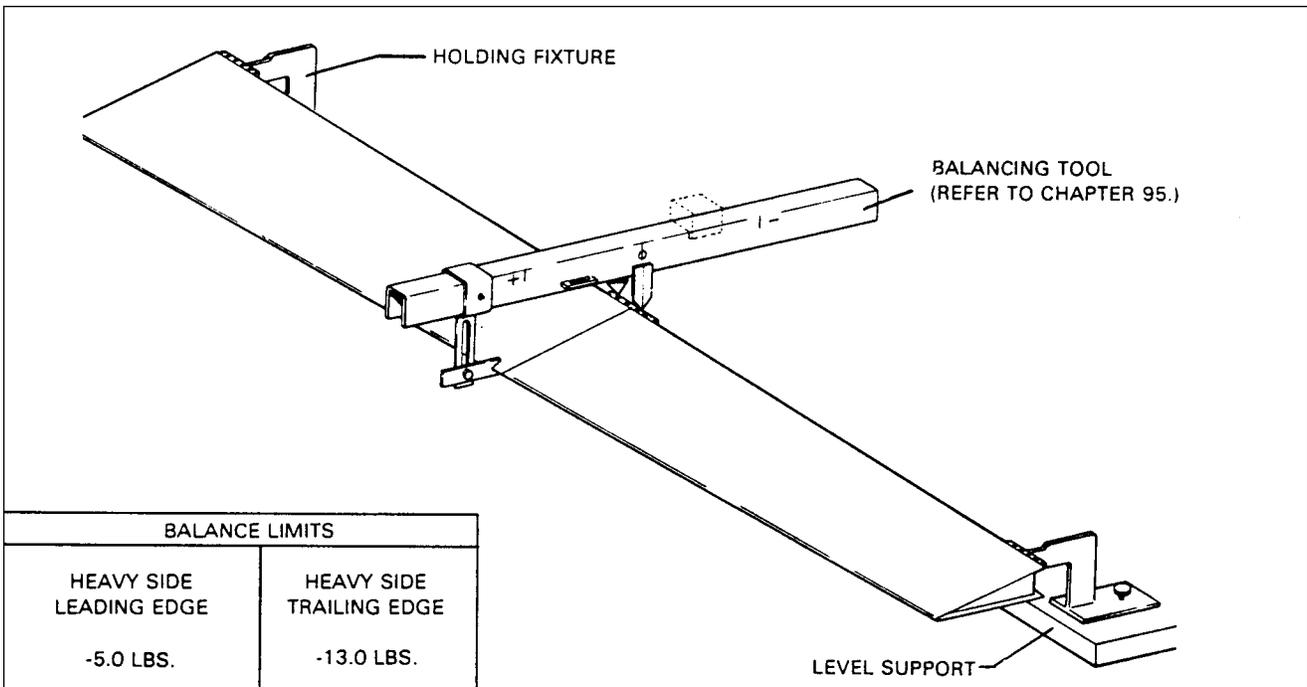

Figure 57-3. Aileron Balance Configuration
**BALANCING AILERON** (figure 57-3)
4. If static balance is not within limits specified in figure 57-3, proceed as follows:
- (1) If aileron is too heavy because of painting over old paint, strip all paint from aileron and repaint.
- (2) If aileron is too heavy resulting from repair to skin or ribs, replace all damaged parts and recheck balance.
**BALANCING EQUIPMENT AND PROCEDURE** (figure 57-3)